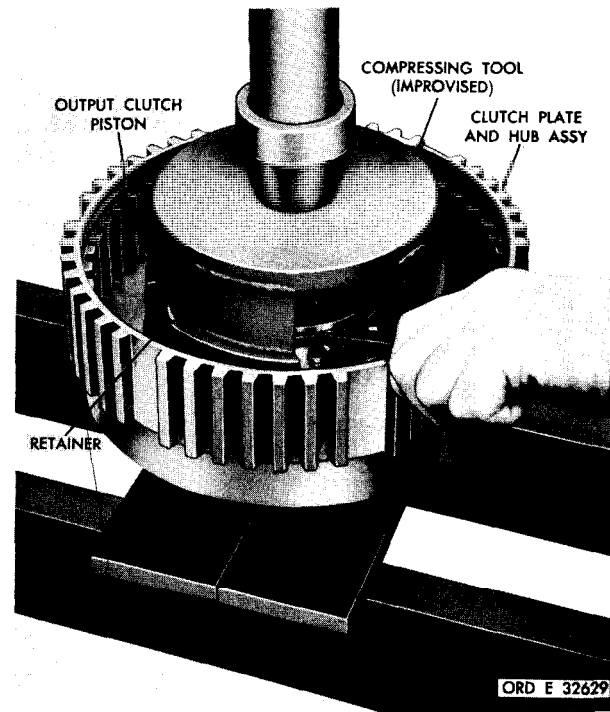

Figure 210. Removing (or installing) retaining ring for ~~sk2~~ piston return spring retainer
spring retainer, compress the springs and remove the retaining ring (fig. 210).
j. Turn the clutch plate and hub assembly over, and bump the clutch piston from the hub (fig. 210).
c. Install the clutch piston in the clutch plate and hub assembly (fig. 210).
ing tool (fig. 38) against the spring retainer, compress the piston return springs and install the retaining ring (fig. 210).